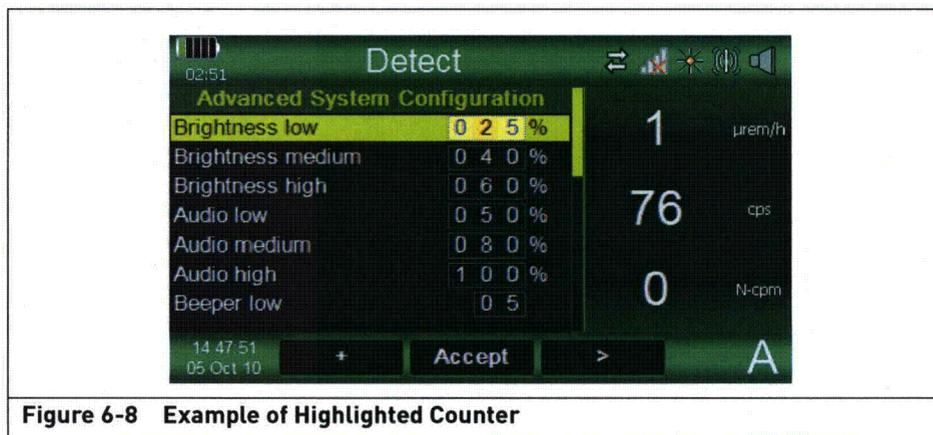

Figure 6-8 Example of Highlighted Counter
3. Refer to Figure 6-8. The counter being modified is highlighted orange while the others remain yellow.